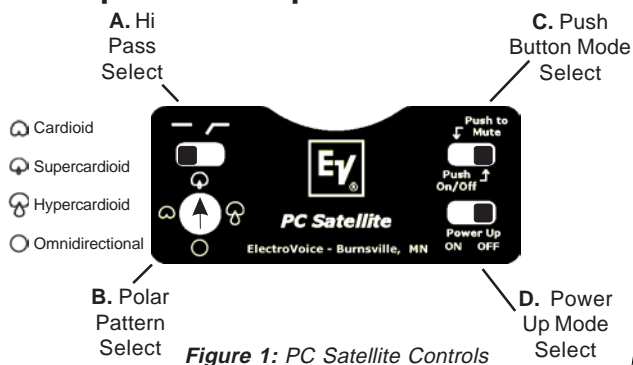

Figure 1: PC Satellite Controls
- A.** Select High-Pass switch position (see figure 1).
B. Select preferred polar pattern (see figure 1).
C. Pushbutton Mode Select (see figure 1) -
D. Power Up Mode Select (see figure 1) - This mode only functions when control (C) is set to “Push On/Off”.